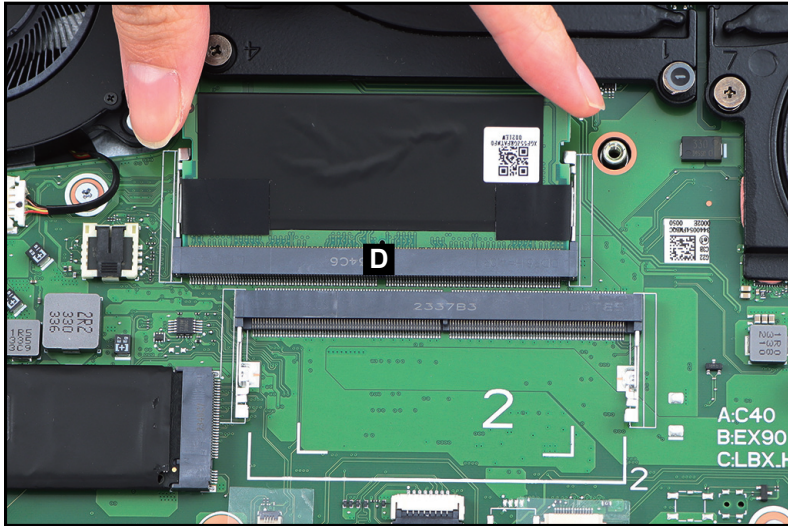

Figure 1-24. DIMM Module Removal
4. Disconnect the DIMM module from the mainboard connector (D) (Figure 1-24). Then remove the DIMM module.